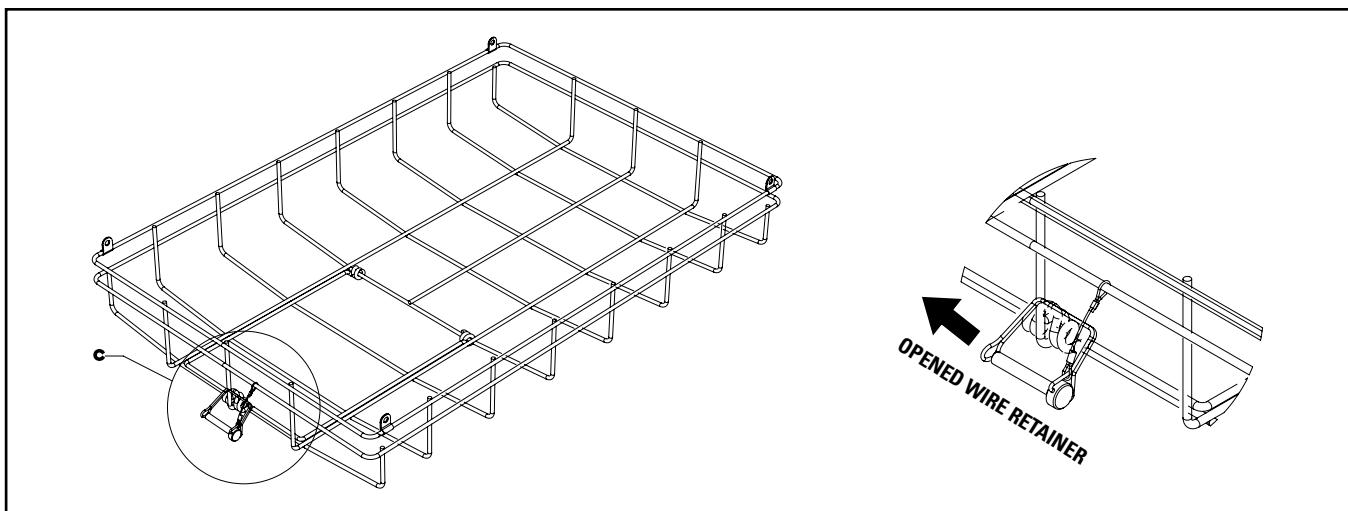

Figure 2.
2. Unlock the clevis pin by pulling the wire retainer open. (Figure 2)